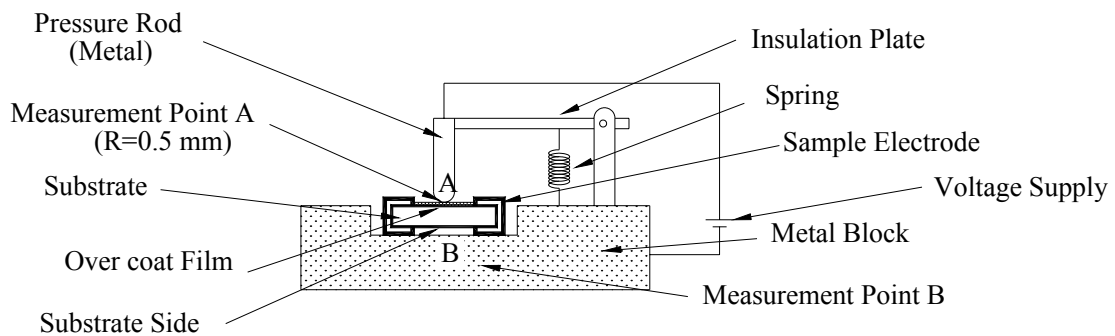

Figure 2 : Measurement Setup
| Insulation Resistance | Over 100 M Ω on Overcoat layer face up Over 1,000 M Ω on Substrate side face up | | (1) Setup as figure 2 (2) Test voltage: 100 V _{DC} (3) Test time: 60 + 10 / -0 seconds |
| Voltage Proof | No mechanical damage | | (1) Setup as figure 2 (2) Test voltage: 100 V _{AC(rms)} (3) Test time: 60 + 10 / -0 seconds |